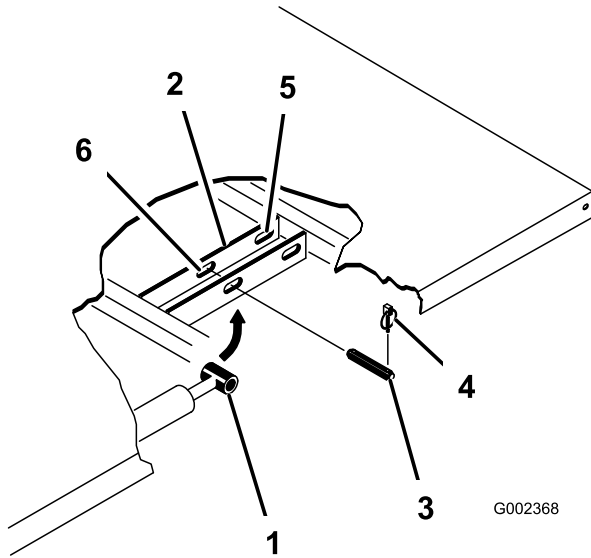

Figure 21
3. Remove the lynch pins from the outer ends of the cylinder rod clevis pins (Figure 21).
4. Remove the clevis pins securing the cylinder rod ends to the bed-mounting plates by pushing the pins toward the inside (Figure 21).
5. Remove the lynch pins and clevis pins securing the pivot brackets to the frame channels (Figure 21).